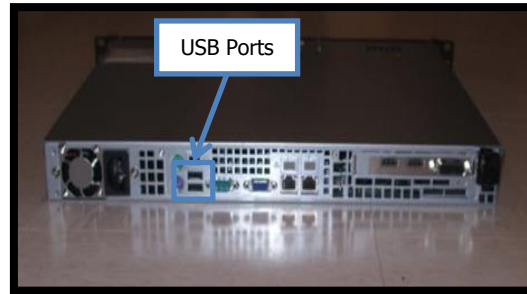

Figure 7.2. Volicon Scout Rear View - USB Ports Location.
- b. Connect the UIRT's USB cable into either one of the Volicon Scout's rear USB Ports. For reference see Figure 7.2.